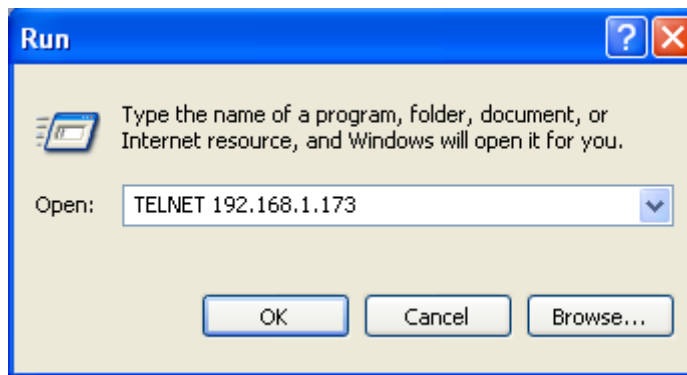

Figure 21 Run Screen
3. Figure 21 will be displayed. Type TELNET XXX.XXX.XXX.XXX and press the OK button. The XXX.XXX.XXX.XXX is the IP address of the ENTA.